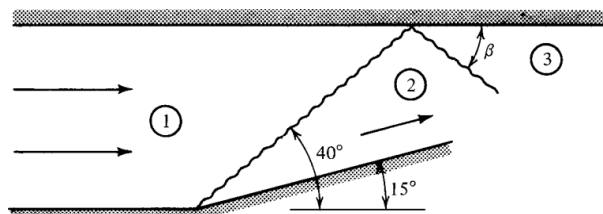

Figure P7.16
7.16 Carbon monoxide flows in the duct shown in Figure P7.16. The first shock, which turns the flow 15° , is observed to form at a 40° angle. The flow is known to be supersonic in regions 1 and 2 and subsonic in region 3.